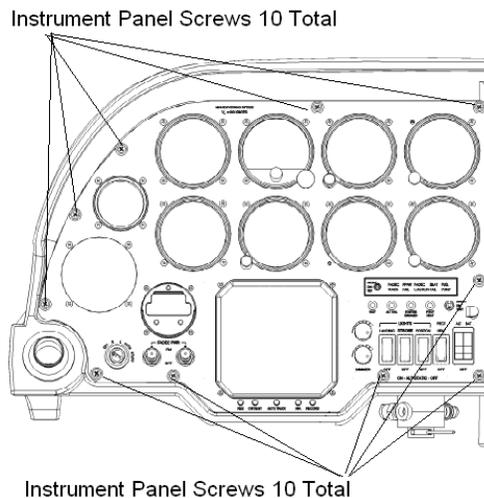

Figure 34-57 Location of the Screws Securing the Instrument Panel
4. Remove the ten screws securing the instrument panel to the instrument console. See Figure 34-57 for location of the screws.
5. Remove the ten screws securing the instrument panel to the instrument console. See Figure 34-57 for location of the screws.